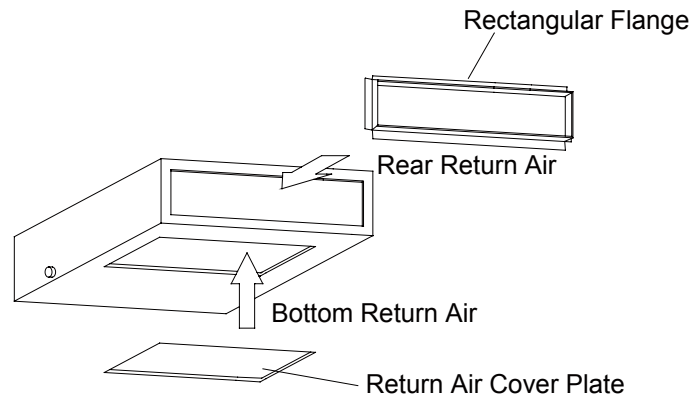

Fig 4.4.9
(1) Square flange is defaulted to be fitted on the back before ex-factory. Air-return cover is on the bottom, as shown in Fig 4.4.9.